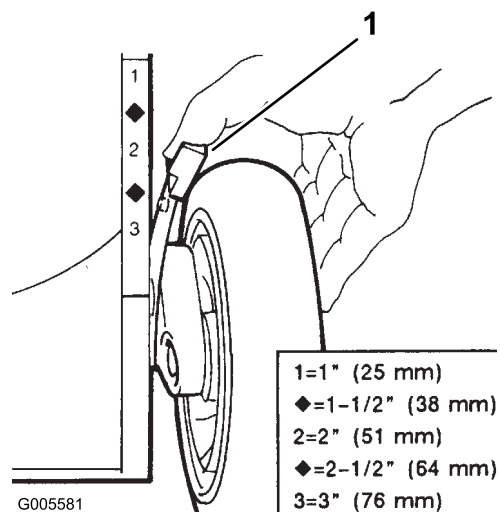

Figure 14
3. Squeeze the cutting height lever toward the wheel (Figure 14) and move it to the desired setting.